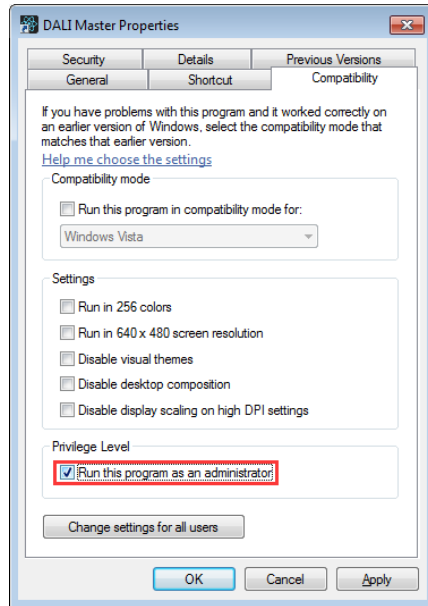

Figure 7 Run this program as an administrator
Step 1: Right click the desktop icon  to check the properties, switch to “Compatibility” tab, and check item “Run this program as an administrator” as shown in **Figure 7**.
Step 2: Click “OK” to complete the setting as shown in **Figure 7**.